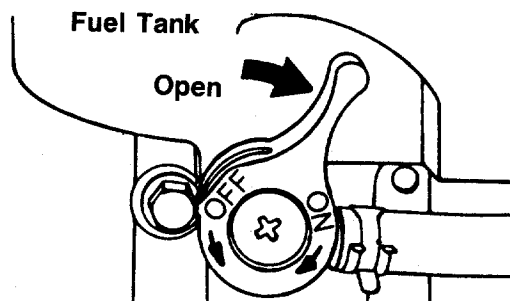

FIGURE 21.
3. The fuel shut-off valve is located beneath the fuel tank. The fuel shut-off valve should be in the open position. See figure 21. Open fuel shut-off valve if it is closed.